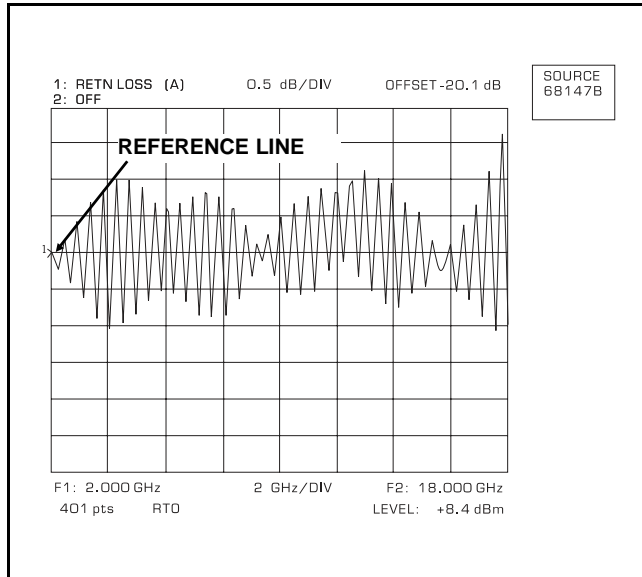

Figure 8. Signal Aligned With the Reference Line
25. Using DATA ENTRY/CURSOR knob, align the Channel 1 signal with the reference line (Figure 8).